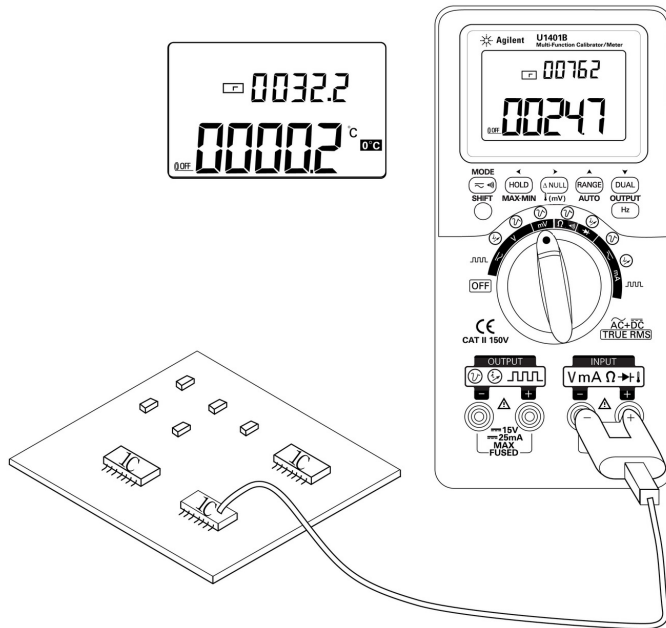

Figure 3-4 Surface temperature measurement
- 4 Plug the thermocouple adapter (with the thermocouple probe connected to it) into the positive and negative input terminals (Figure 3-4 on page 53).